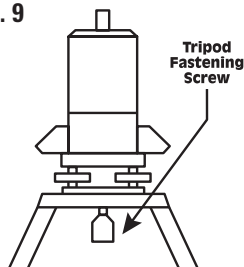

FIG. 10
D) Tighten the tripod fastening screw and recheck the level vials by following steps 3 and 4 again. (Fig .10)